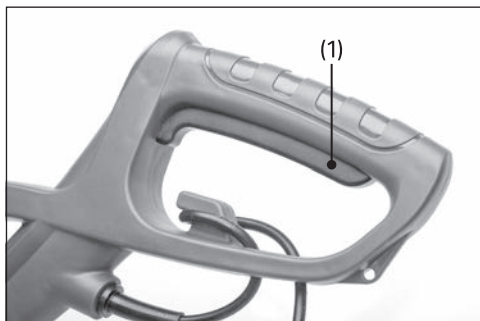

Fig. 8
7.1 ON/OFF Trigger Operation (Fig.8)
- Squeeze the trigger (1) to start the trimmer.
- Release the trigger (1) to stop the trimmer.